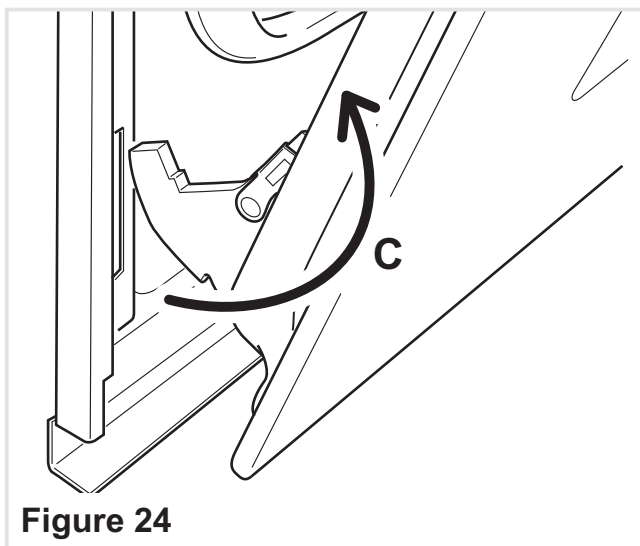

Figure 24
- Withdraw the hinge hooks from their location following arrow “C” (fig. 24).